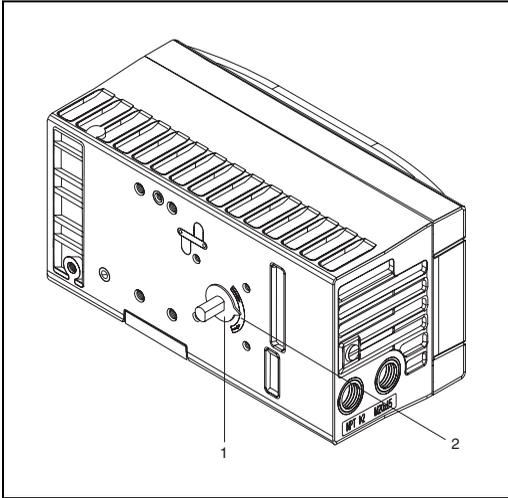

Fig. 2 Operating range
- On the basis of the mounting position, the home position, and the direction of rotation it must be determined in which position the feedback shaft (1) of the positioner must be pre-adjusted and in which position the adapter (2) must be placed, to enable the positioner to travel within the correct range (the arrow on the rear of the device must travel within the admissible range, for details see Fig. 2 on page 11).
- Place the adapter on the feedback shaft in the appropriate position and fix it by set-screws (3); ensure that one of the set-screws is engaged on the side of the feedback shaft with the flat.
2. Attach the mounting bracket (1) to the positioner